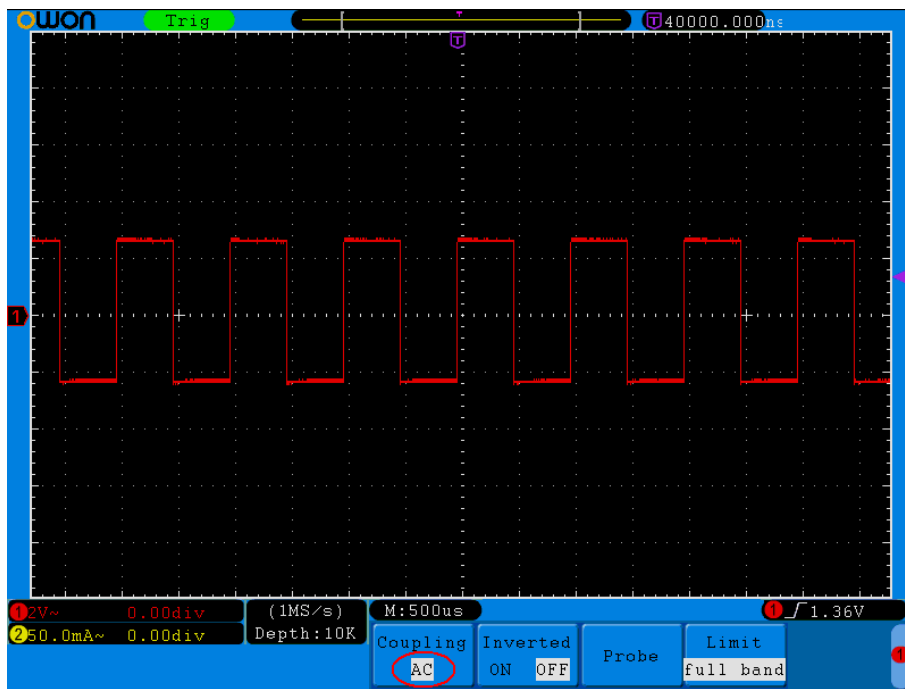

Figure 5-3 AC Coupling Oscillogram
- (4) Then, press **F2** button to select the Coupling item as "**AC**". The direct current component of the signal is blocked. The waveforms are shown as *Figure 5-3*.